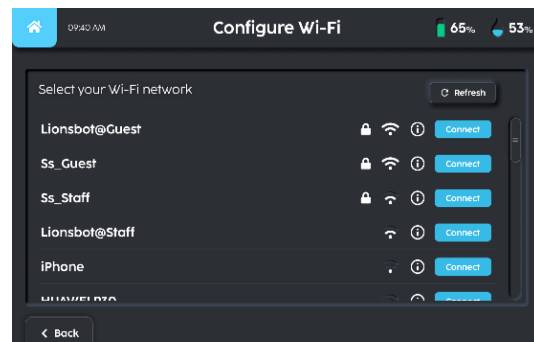

FIGURE 6-4
4. Select the network to configure or connect to (Fig 6-4).